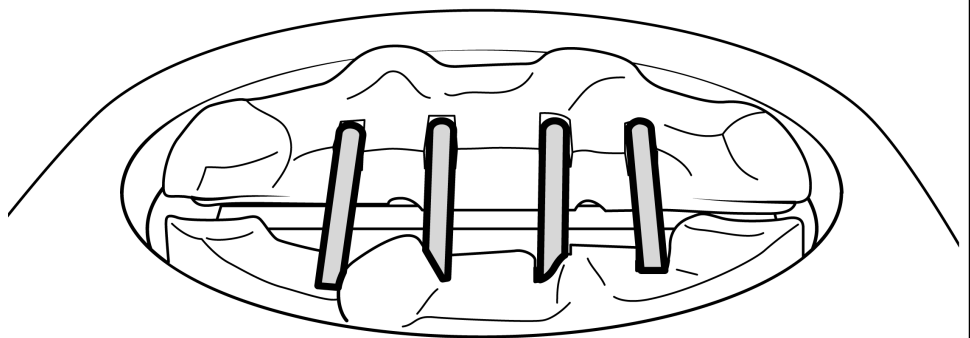

Figure 29 Ceramic support rod Location
3. There are four ceramic support rods. Locate the ceramic support rods into the slots of the ceramic base (See figure 29)